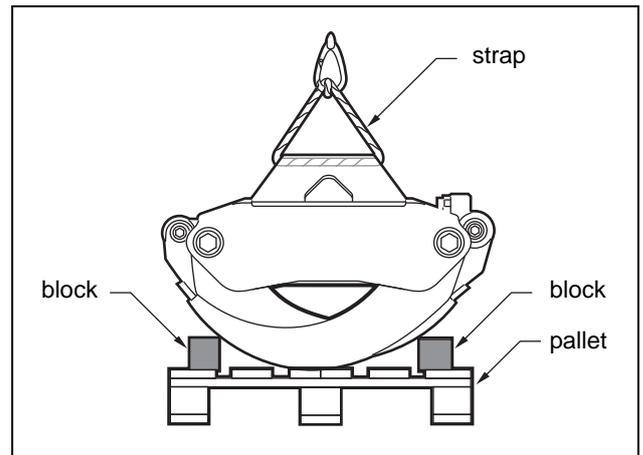

Fig. 7 Arrangement of the grapple at transportation or service
**Note!** Nail blocks to the pallet base to prevent the grapple from falling during transportation or service. Tie a strap around the stand for safe lifting. *See Fig. 7.*
1. Place the grapple on a firm base. *See Fig. 7.*